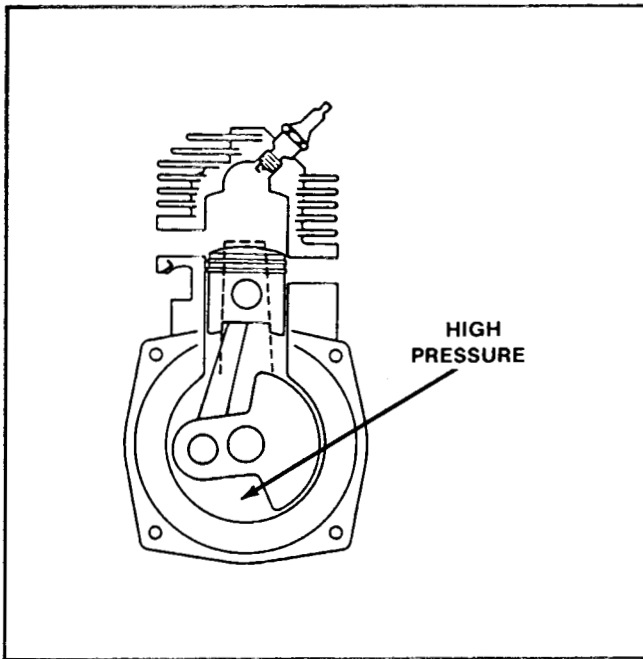

Figure 91
7. The piston then begins its downward stroke. As this occurs, pressure begins to build in the lower crankcase. See Figure 91.